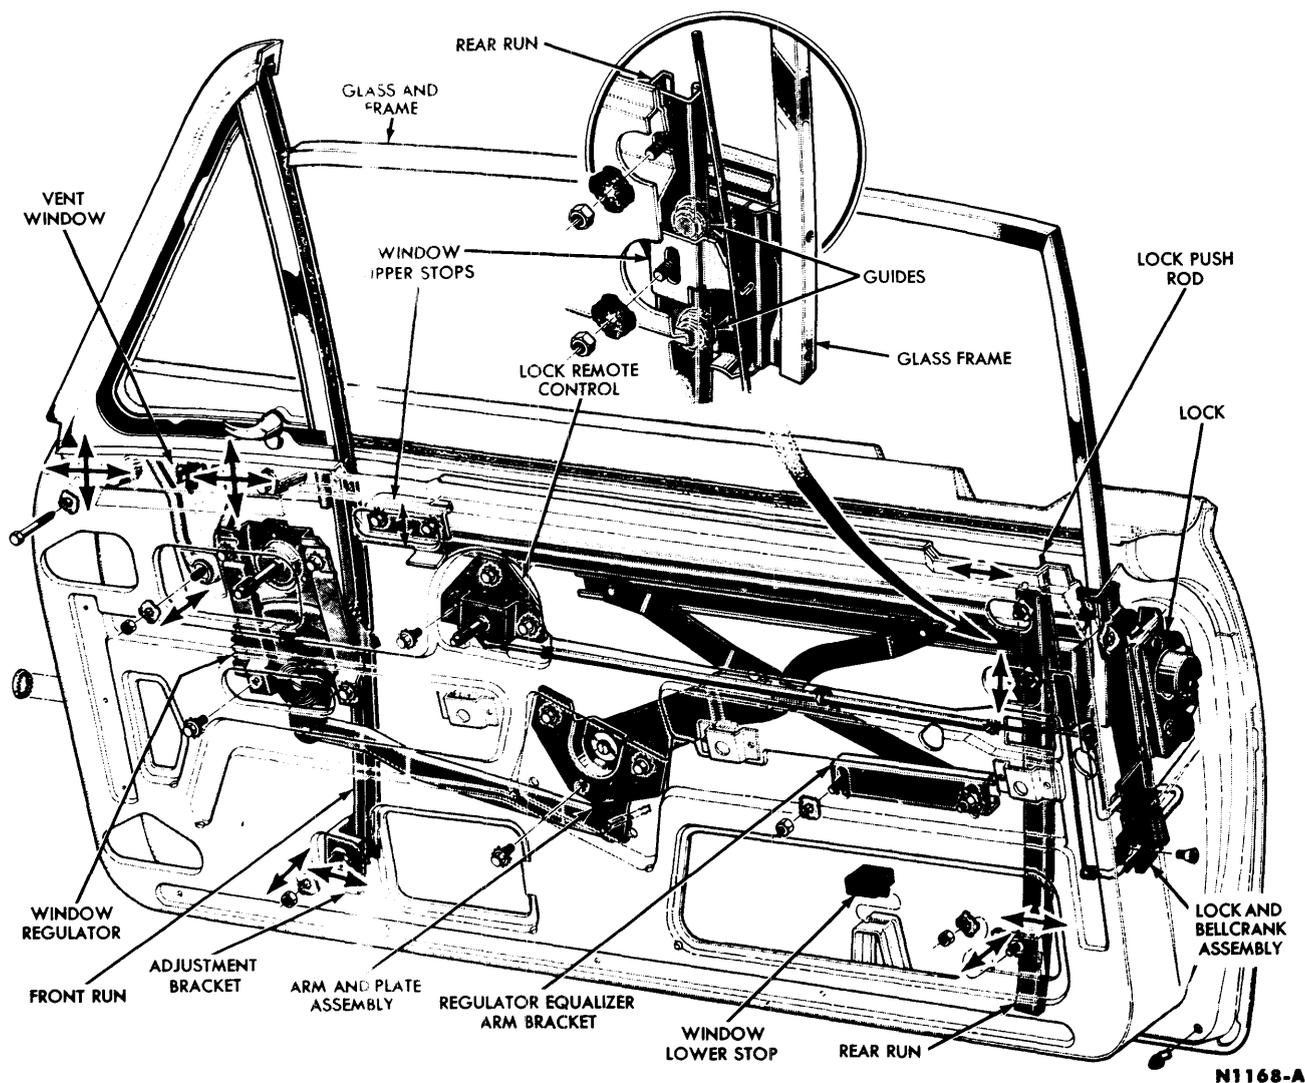

FIG. 8—Door Window Mechanism Adjustments
1. Remove the door trim panel (see Part 11-2), and loosen the water shield enough to reveal the door panel access holes (Fig. 8).
2. Remove the 2 bolts retaining the vent window assembly to the door (Fig. 8).
4. Remove the vent window adjusting screw nut and washer (Fig. 8).
15. Install the vent window frame to door panel retaining bolts (Fig. 8).
19. Adjust the vent window assembly to the body opening (Fig. 8), and tighten the retaining nuts and bolts.
To level the glass with the belt line, raise or lower the regulator arm equalizer bracket (Fig. 8).
To obtain a snug fit between the front run and the glass, loosen the window guide upper and lower retaining nuts (Fig. 8), and with the glass in the down position, adjust the guide as required. Tighten the guide lower retaining nut, raise the
To tilt the top of the glass frame for parallel alignment with the roof rail weatherstrip, adjust the window run and guide lower adjustment screw as required. (Fig. 8).
9. Install the lockside guide to its retaining bracket. Install the window upper stops and adjust the window assembly (Fig. 8).